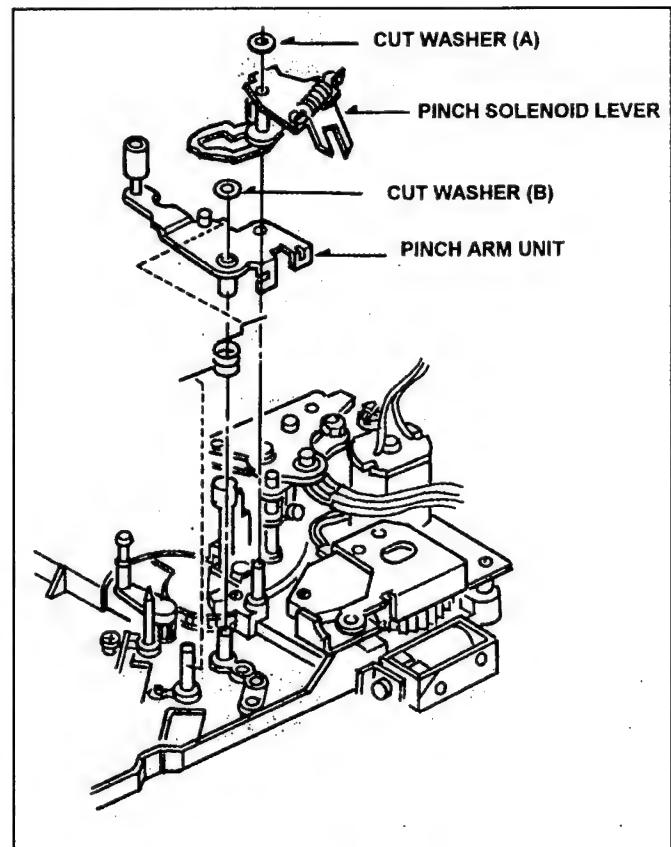

Fig. 4-6-1 Removal of Pinch Arm Unit
3. Remove the Pinch Solenoid Unit (Refer to item 4-8), then hang off the Pinch Solenoid Lever as shown in Figure 4-6-1.
4. Remove the cut washer (A) and remove the Pinch Solenoid Lever as shown in Figure 4-6-1.
5. Remove the cut washer (B) and remove the Pinch Arm Unit as shown in Figure 4-6-1.